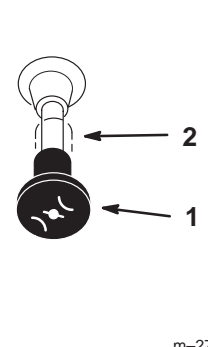

Figure 15
4. Move the choke control to the On position before starting a cold engine (Fig. 15).
7. After the engine starts, move the choke to Off (Fig. 15). If the engine stalls or hesitates, move the choke back to On for a few seconds. Then move the throttle lever to the desired setting. Repeat this as required.